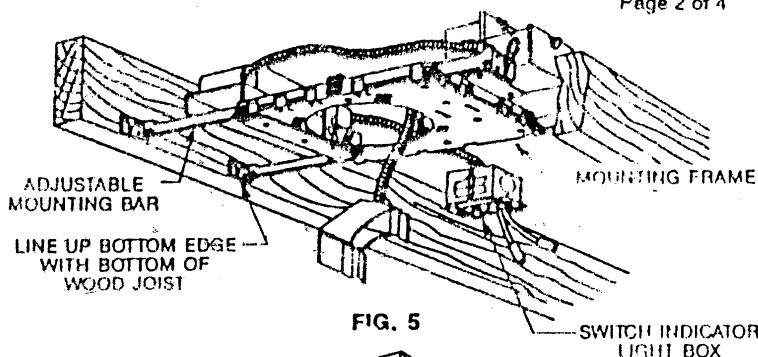
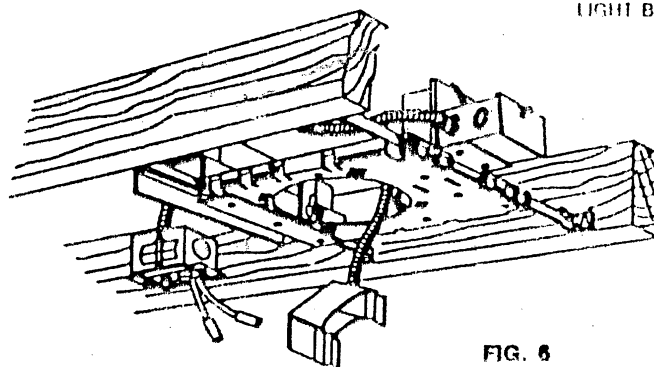

FIG. 5
FIG. 6
Fasten MOUNTING FRAME to wood joist. Line up bottom edge of ADJUSTABLE MOUNTING BAR with bottom of wood joist (Fig. 5). Wire to supply leads. (For Cable, use built-in Cable Clamp in J-Box.)
**NOTE:** 1. ADJUSTABLE MOUNTING BARS are pre-assembled on long side of MOUNTING FRAME for rigidity and ease of installation, Fig. 5. The MOUNTING BARS must be removed and installed on narrow side of MOUNTING FRAME if installed between joist on 16" spacing, Fig. 6.